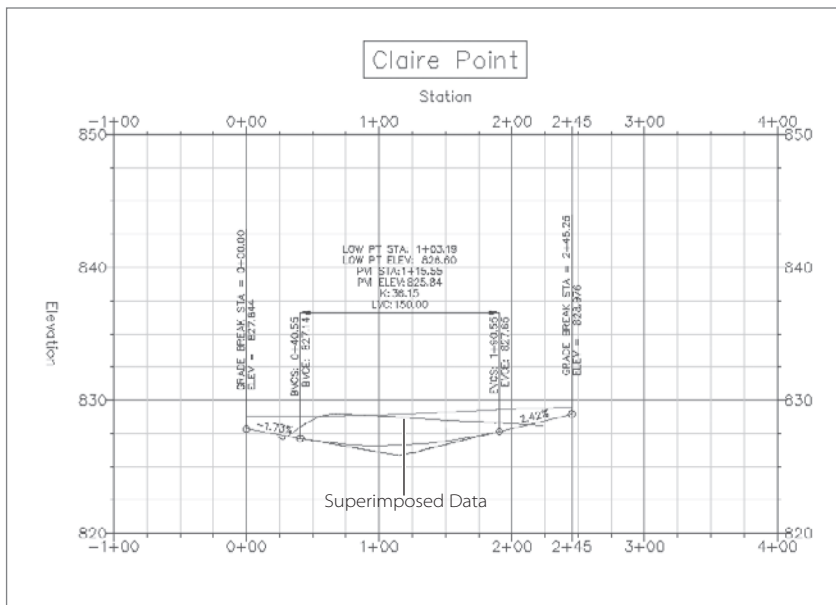

Figure 9.33
5. Click OK to dismiss the dialog. The Claire Point profile view should look like Figure 9.33. Remember, the projection is a linear point projection, so distances and curves may look exaggerated in some way.